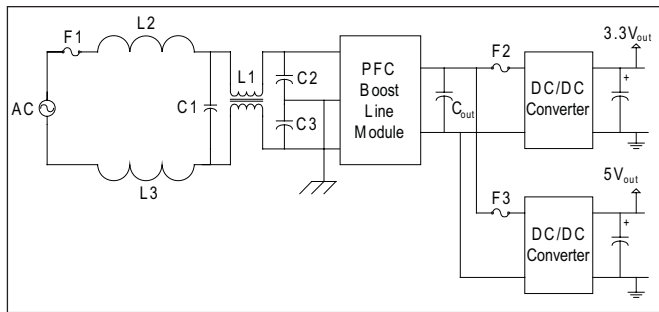

Figure 3: PFC Boost - Typical application circuit, 3.3 & 5V, 60W combined output power.
Product safety standards written by Underwriters Laboratories (UL) and the International Electrotechnical Commission (IEC) require fuses for primary AC power protection and secondary protection against any catastrophic failure within the input filter capacitors, PFC boost module, output electrolytic capacitors (C_{out}) or the DC-DC converters. The PFC boost module usually does not contain overcurrent protection; if a short-circuit is applied across its output terminals, there is no internal circuit opening device to safely interrupt the power. Without fuse protection in the AC input line (see fuse F1 in Figure 3), the boost converter is not protected.
Fusing the DC-DC converter input lines is essential for protection against a catastrophic DC-DC converter failure (see fuses F2 and F3 in Figure 3).
Common Cooper Bussmann® fuses applied to the overcurrent protection points in the circuit of Figure 3 are: